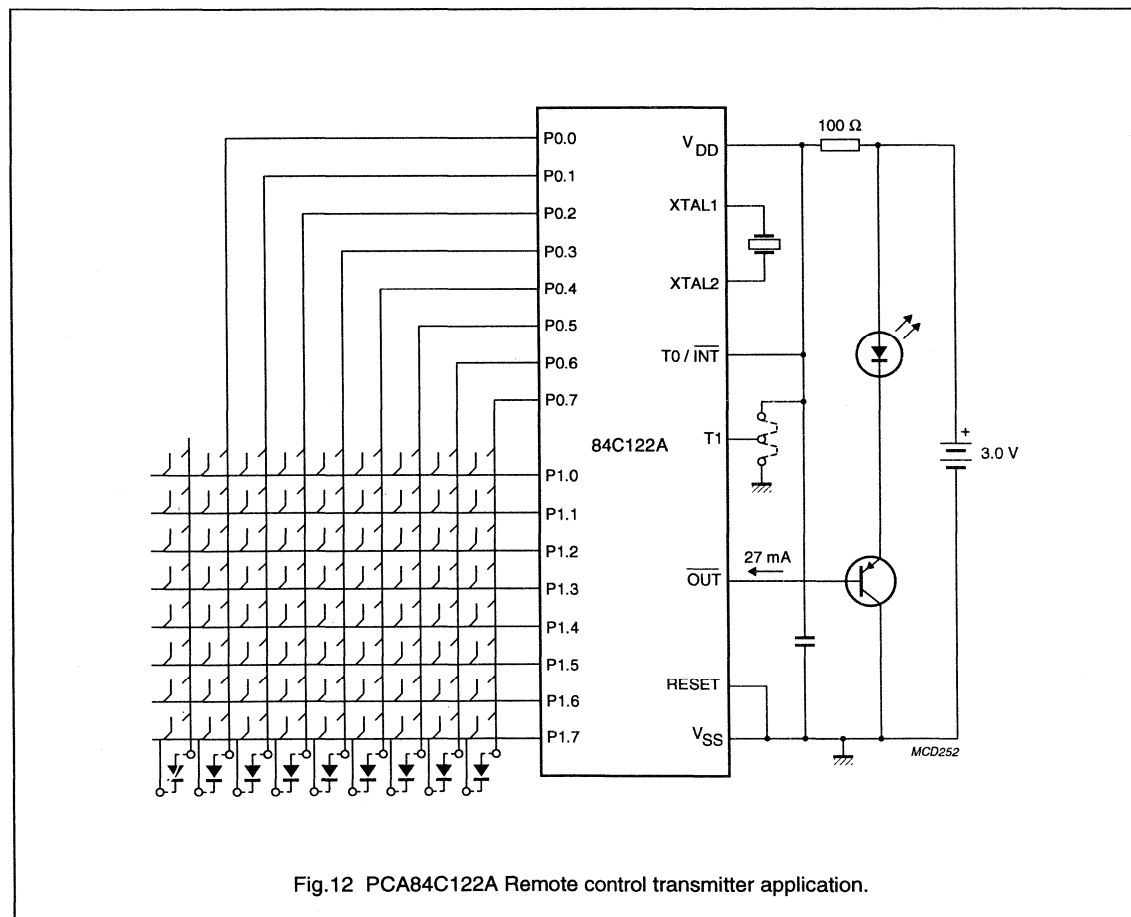

Fig.12 PCA84C122A Remote control transmitter application.
The main application for the 84C122 is as a remote control transmitter, see Fig.12.
2. By connecting diodes between one sense line and a number of scan lines (see Fig.12). If necessary these diodes can be placed parallel to keys. When the sense line is set to logic 0 (acts as scan line), the option setting can be read from the scan lines (which act as sense lines and should be set to logic 1 beforehand).